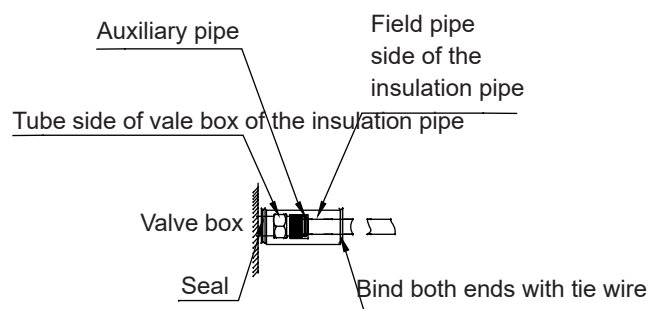

Fig.13
- (1) Please connect it tightly so as to ensure no gas leakage at both ends.
- (2) The retaining clamp shall not be over tight so as to ensure the thickness of the insulation materials.
- (3) Joints of insulation materials (purchased locally) for the upper flare nut connections shall be wrapped upwards.
- (4) Ensure that joints of the insulation materials are installed upwards. (See Fig.13.)